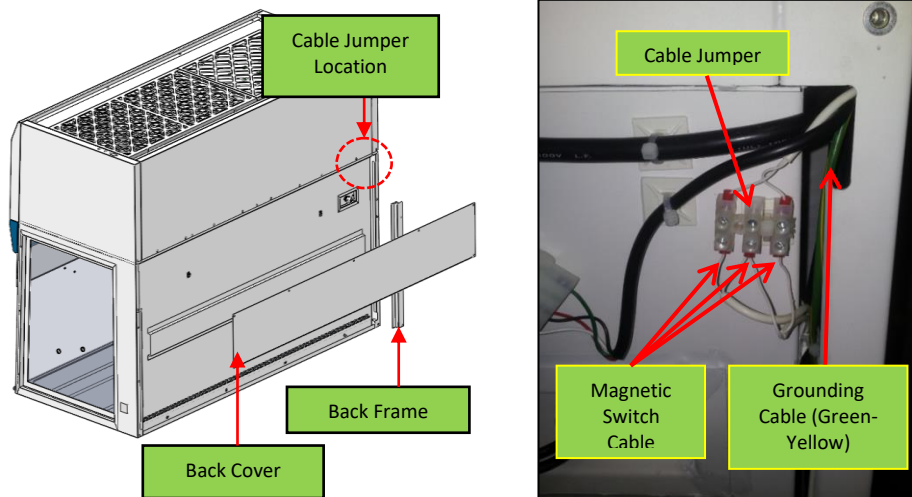

Fig 1.7.2
- Disconnect the magnetic switch cable (white) from the cable jumper and de-attached cable ties from back wall (Fig. 1.7.2). Magnetic switch can be found at the bottom of the tray (Fig. 1.7.3).